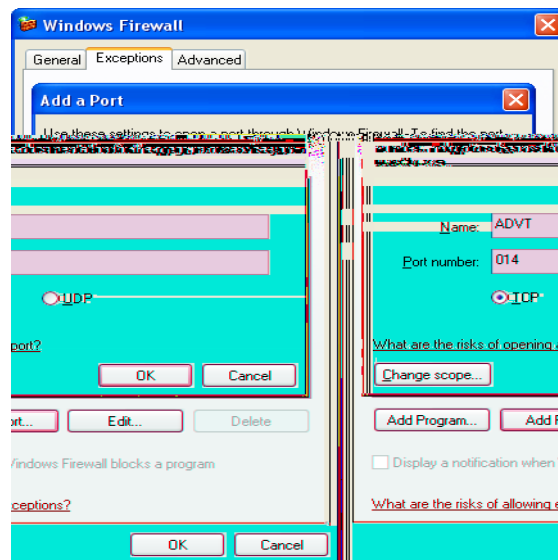

Figure 22 Add a Port
- If the verification is still failed after all above steps and the operating system is Windows, please add the server program and the port to the "Exceptions" in Control Panel -> Windows Firewall. As shown in Figure 22 Add a Port.